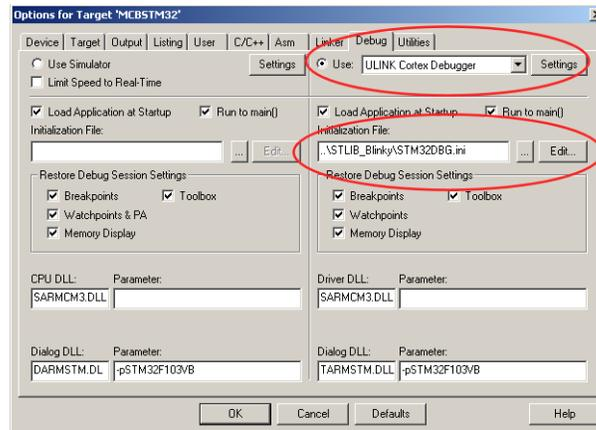

Figure 35
In Figure 35 below, both pots are being turned and both their values are displayed:
- Number 3) is probably the easiest to use, but whichever one you use, Figure 35 opens up:
- If you have trouble getting or maintaining communication with your evaluation board – please check these settings and Figures 35 and 36. Pay particular attention to the JTAG or SW setting.